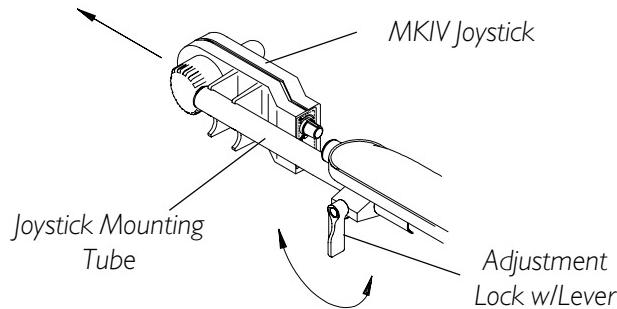

FIGURE 1 - PREPARING MKIV JOYSTICK FOR USE
This Section Includes the Following:**Preparing MKIV Joystick for Use****Repositioning MKIV Joystick****PREPARING MKIV JOYSTICK FOR USE (FIGURE 1)**
1. Turn the adjustment lock lever to release the adjustment lock from joystick mounting tube (**tube**) (FIGURE 1).
3. Remove the three (3) hex screws that secure the joystick mounting bracket (**bracket**), threaded hole half clamp and opened hole half clamp to the arm tube.
5. While holding the two (2) half clamps, install the front hex screw into the two (2) half clamps and securely tighten.
6. Line up the mounting holes of the joystick mounting bracket with the mounting holes in the two (2) half clamps.
7. Secure the joystick mounting bracket to the two (2) half clamps with the remaining two (2) hex screws.